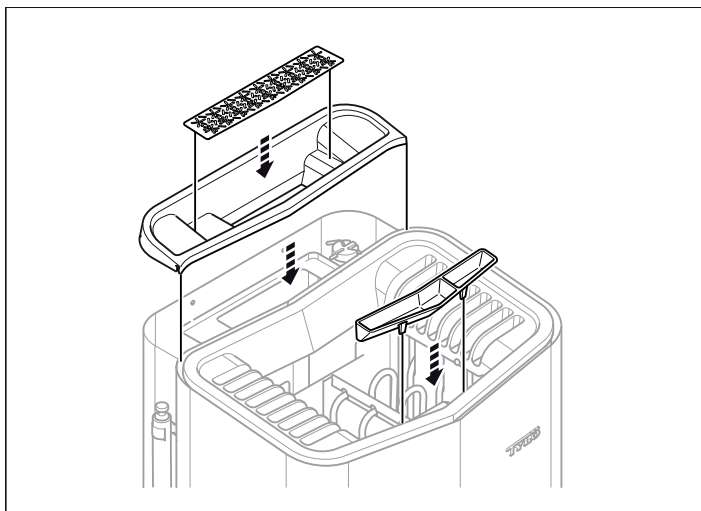

Fig 14: Fitting the cover for the water reservoir, herb grille and fragrance holder/air humidifier
11. Fit the cover for the water reservoir, herb grille and fragrance holder/air humidifier (see Figure 14).